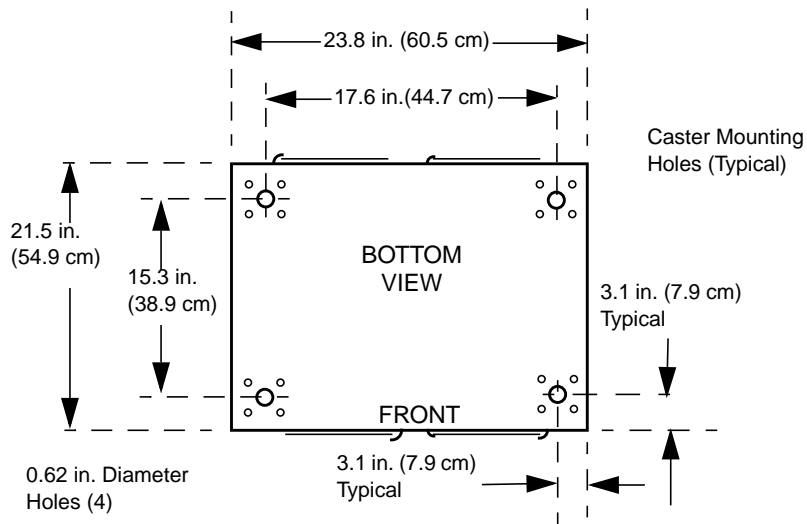

Figure 3-10: Drilling Template for a 70-in. Station Cabinet
- Base mounting (see Figure 3-10)
- 70-in. cabinet (see Figure 3-10)